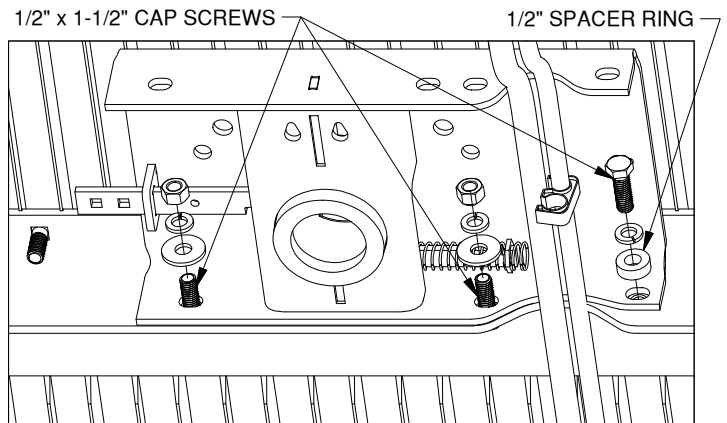

Figure C5: View looking under center section.
- 4. Attach the center section.** Retrieve three 1/2" x 1-1/2" cap screws, two 1/2" flat washers, three 1/2" split lock washers, two 1/2" finish nuts and the 1/2" spacer ring. Slide the center section forward. Insert two 1/2" cap screws through the front of the cross member and into the center section. Use the washers and nuts to secure the center to the cross member. Insert the remaining 1/2" cap screw into the threaded bushing with the 1/2" spacer ring and a 1/2" split lock washer, see Figure C5. Do not fully tighten hardware at this time.